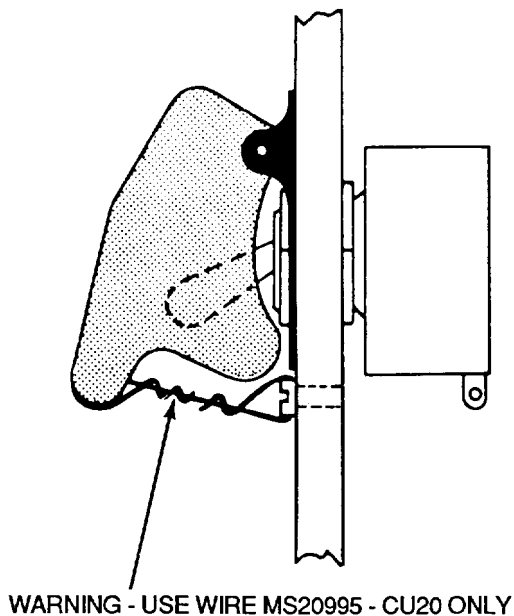

Figure 12. Shearwiring Emergency Devices
29. **SHEARWIRING.** All application of shearwire will use the single wire method. Under no circumstances will the double wire method be used. All applications of shear wire will use copper wire part number NASM20995-CU20 only and shall be wired as illustrated (Figure 12).